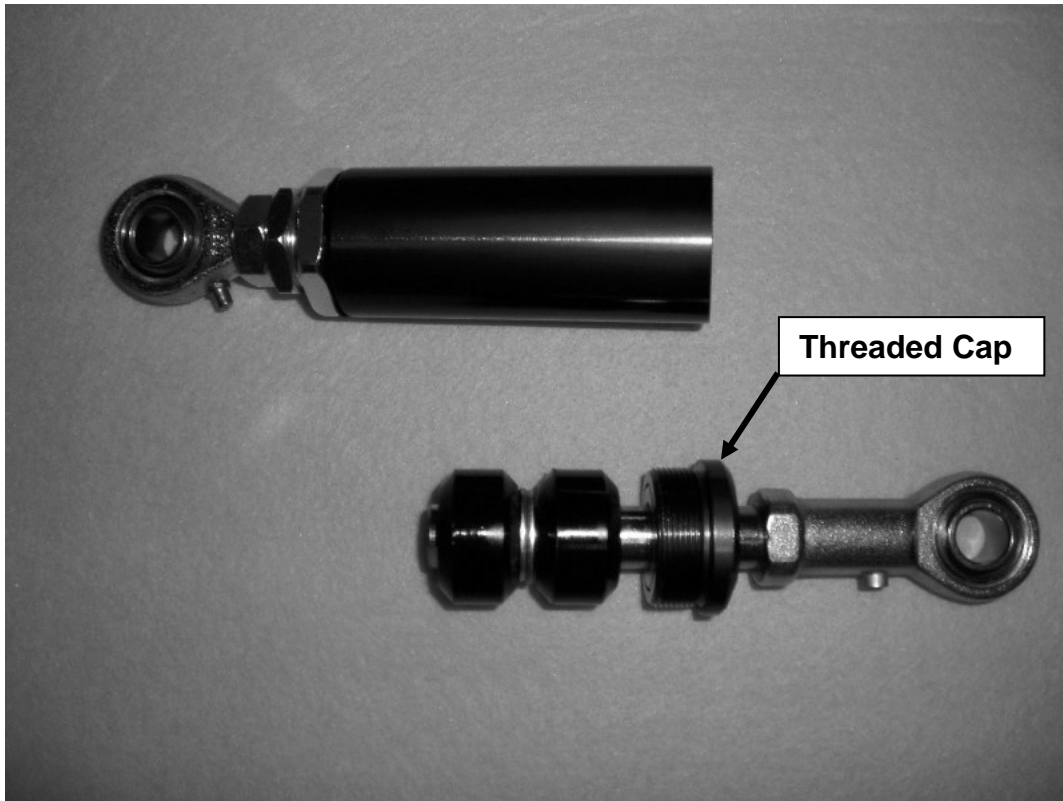

Figure 2
3. Once the cap is loose it is easily removed with your fingers. When the cap is completely out of the damper tube, pull on the fixed mount end while holding the damper cylinder and the shaft along with the damper elements will come out of the damper tube (Figure 2).